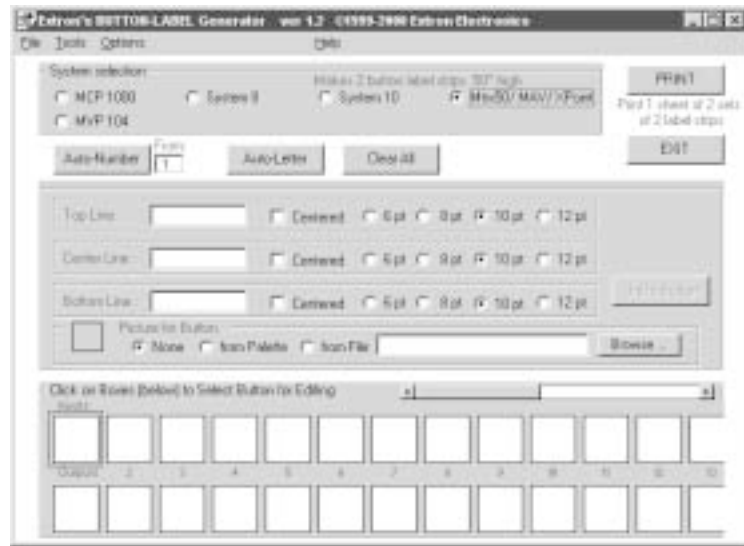

Figure 39 — Extron's Button-Label Generator window
2. Under System selection, choose Mtrx50/MAV/XPoint. The Extron's Button-Label Generator window appears (figure 39).